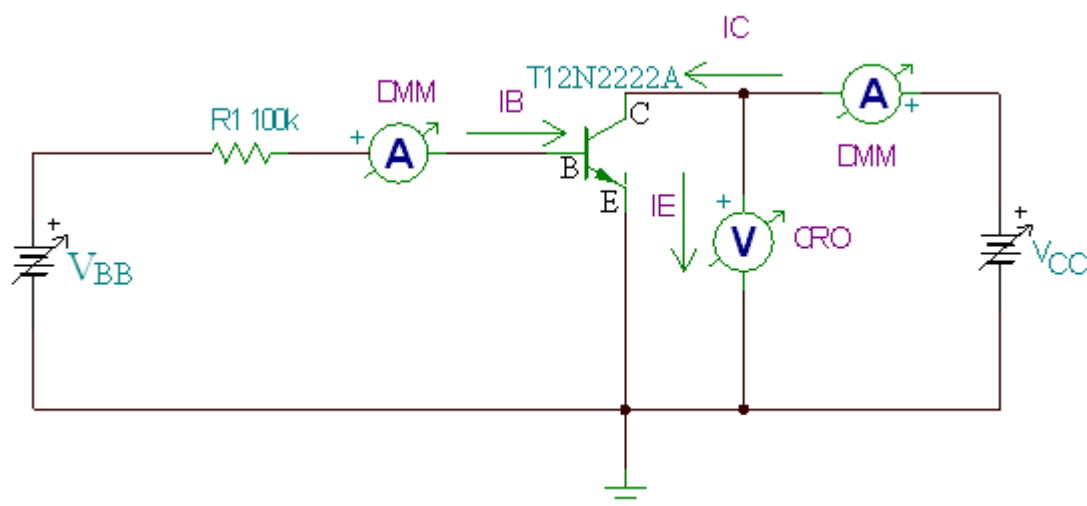

Fig 6.2 Circuit for Common Emitter Output Characteristics
7. Connect the circuit in fig 6.2